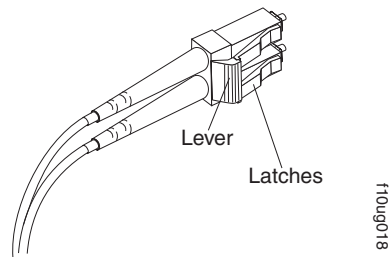

Figure 39. LC-LC fibre-channel cable lever and latches
1. On the end of the cable that connects into the LC connector end of the LC-SC cable adapter, press down and hold the lever to release the latches. Figure 39 shows the location of the lever and latches.